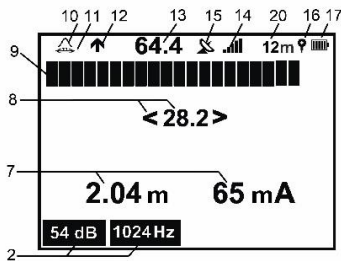

Fig. 19. Display in "Track" mode
- **TRACE** – to locate the utility and detect its depth and operating frequency current flowing through it. The display of this mode is shown in **Fig. 19**.
The indicator of the input signal strength in dB (for locating by peak and null) turns red when the corresponding input channels are overloaded (See Pos. 13, Pos. 8 **Fig. 19**).
If the double-frequency signal strength is sufficient, the indication of current direction (pos. 12 **Fig. 19**) will be active automatically. If the “Compass line” feature is used, the current direction will be shown with the utility position arrow direction (pos. 19 **Fig. 22**).